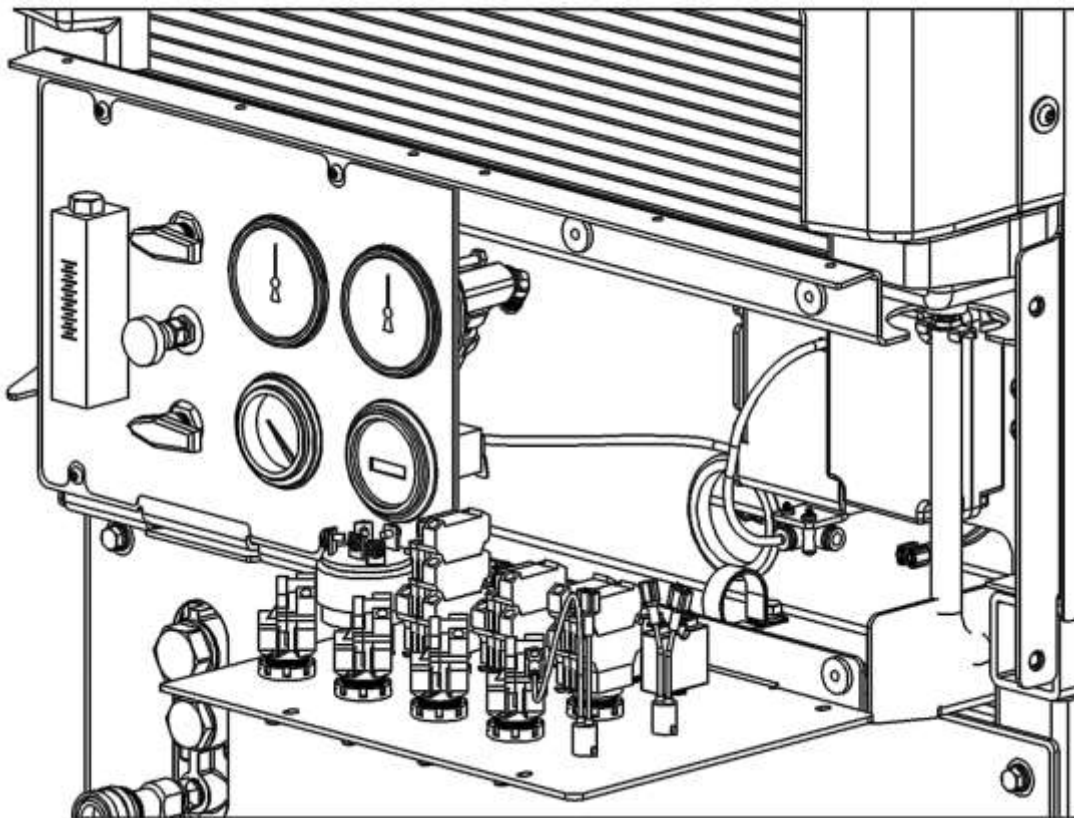

Figure 3 – Electrical side instrument panel access
3. You can now fold down the electrical right-side of the panel to access the wiring harness, Thermalogic control box and E-Idle™ control box (shown in Figure 3). Do not fold down the left gauge/chemical side of the panel without first folding down the right electrical side.